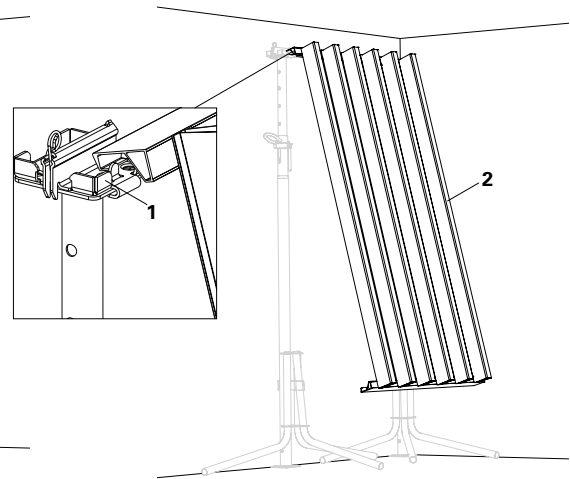

Fig. A4.02
2. Hook in Standard Element GFP (2), white. (Fig. A4.02)